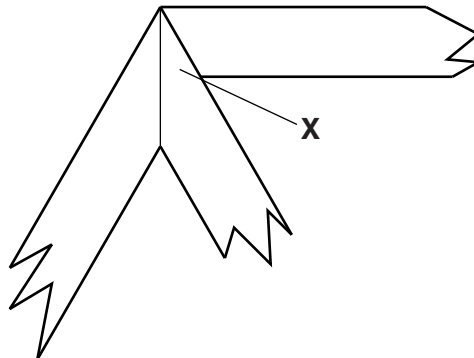

Fig. 6
- (iii) Fig. 6 shows an enlarged view of the roof truss joint at **X**.
Draw a gusset plate at point **X** on Fig. 6 and show how it will be fixed in position. [3]